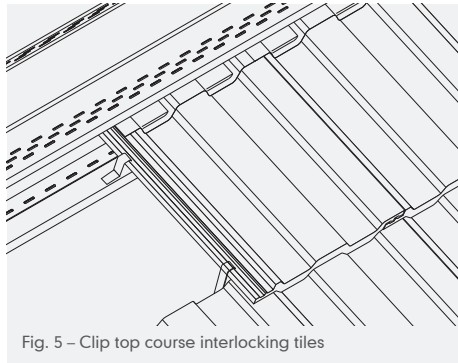

Fig. 5 - Clip top course interlocking tiles
- 8 Insert tile with filler unit into batten section by lifting top flange slightly until ribs engage over upstand and tile is held securely. The ridge filler unit for Modern has raised lugs which fit beneath circular beads on batten sections (Fig. 5).
- 9 Ensure each tile is mechanically fixed by using a standard tile clip located over side lock and nailed to top edge of second course tiling batten (Fig. 5).